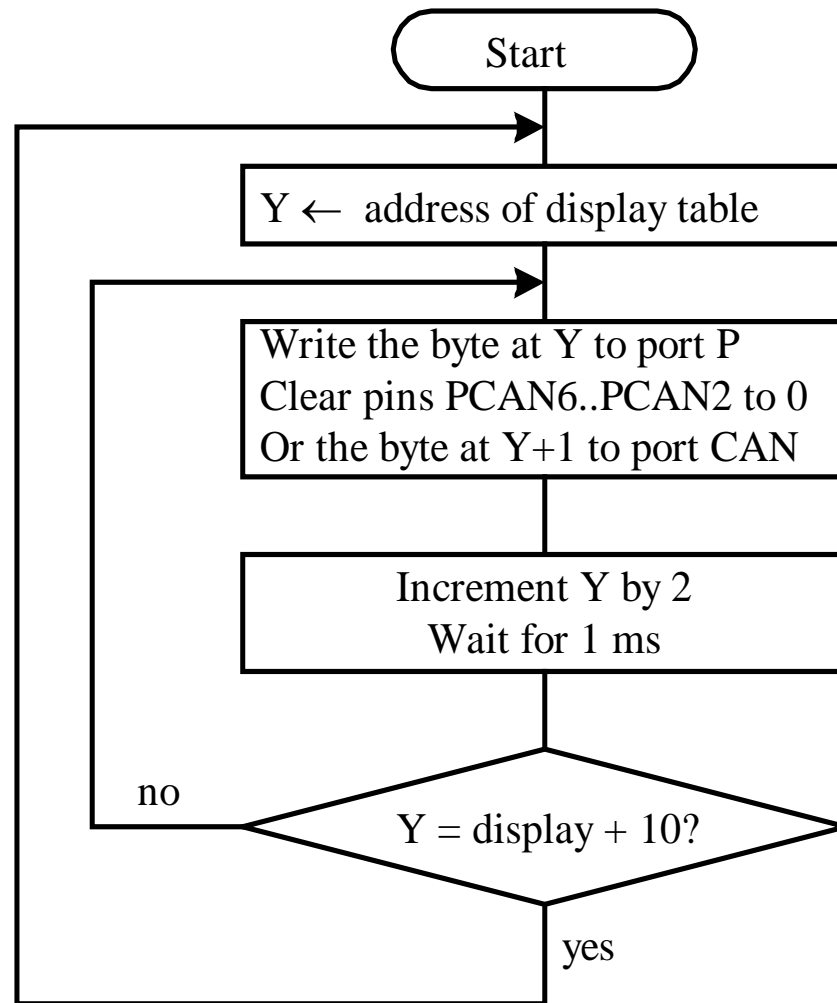

Figure 7.14 Time-multiplexed seven-segment display algorithm
- The algorithm that utilizes the principle of persistence of vision is shown in Figure 7.14.